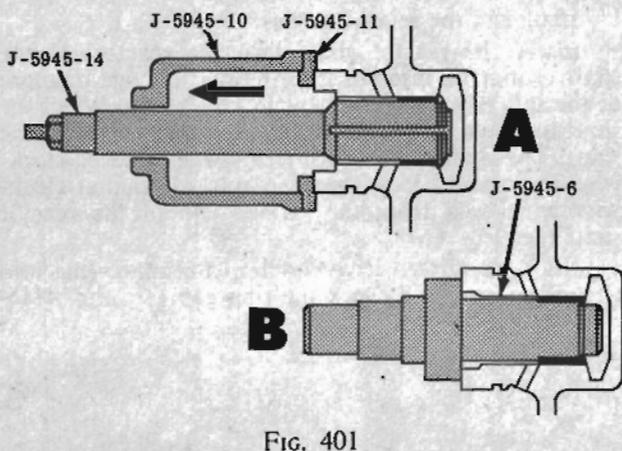

FIG. 401
the bushing remover tools, as shown in Fig. 401(A) and remove the bushing and thrust washer. Assemble the bushing replacer tools, as shown in Figure 401(B) to replace the bushing and thrust washer.